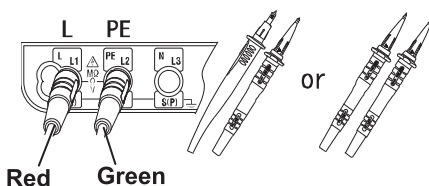

Fig.19
3. Insert the Test Leads to the L and PE terminal on KEW6016 respectively as shown in Fig.19.